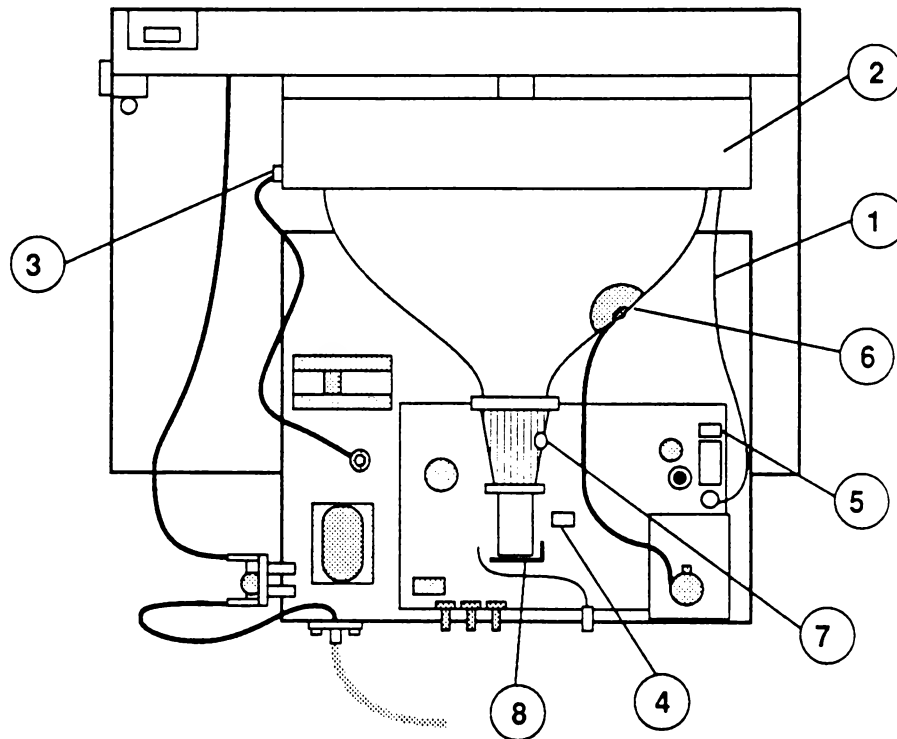

**FIGURE 15**
2. Replace the top-left mounting screw first, then the top-right screw, making sure that the antistatic shield finger plate is in place (it should touch the CRT) and that the black ground wire (Figure 15, #1) from the right side of the main electronics assembly is also attached to the same screw. Then replace the two bottom mounting screws.
4. Reinstall the top ground shield (Figure 15, #2) with its five mounting screws.
5. Replace the screw (Figure 15, #3) that secures the chassis ground wire to the left side of the top shield.
6. Connect the green/white wire from the yoke to the V-DY connector (Figure 15, #4) and the brown/gray wire to the H-DY connector (Figure 15, #5) on the main electronics assembly.
7. Replace the anode cap (Figure 15, #6).
8. If the yoke has been removed, replace it by sliding the new yoke over the neck of the CRT and tightening the yoke screw (Figure 15, #7).
9. Reinstall the CRT socket (Figure 15, #8).